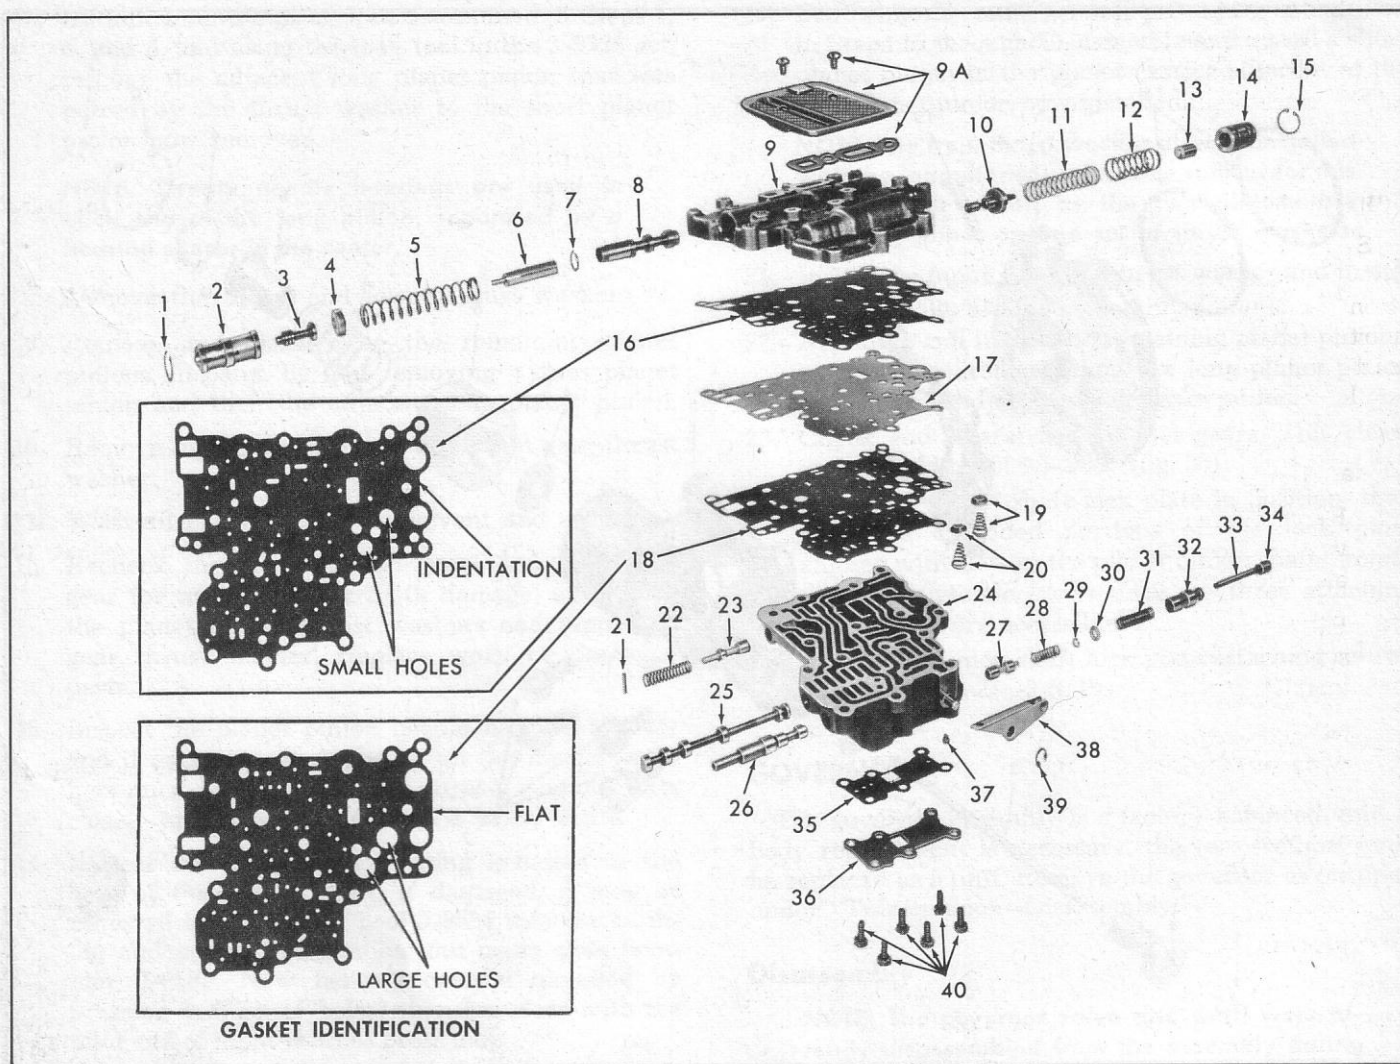

Fig. 34—Valve Body—Exploded View
1. Replace valve components in the proper bores, reversing the disassembly procedures given above and checking Figure 34, if necessary.
NOTE: See Figure 34 for upper and lower valve body gasket identification.